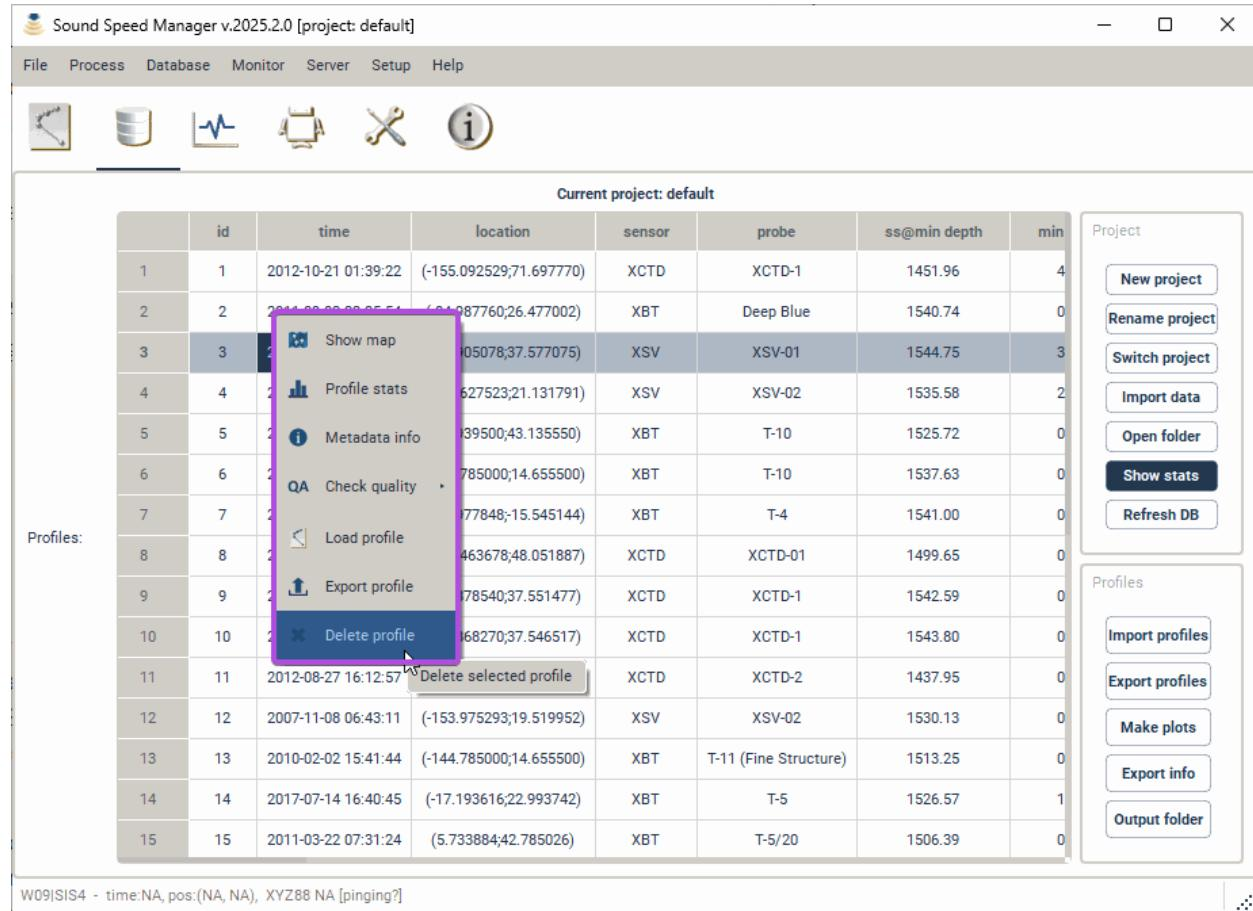

Fig. 2.48: The single-selection context menu provides functionalities specific to a single profile.
- Single-profile selection (Fig. 2.48).